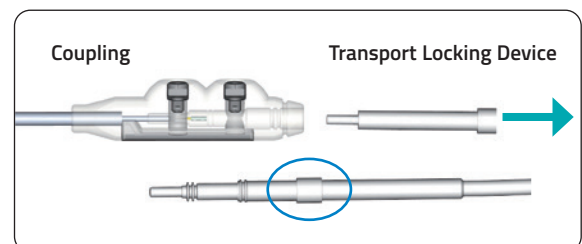

Fig. 33 Transport locking device removal
Remove the transport locking device from the receivers coupling. Place a drop of saline on the plug of the cable and insert into the coupling (**Fig. 33**). Place the stethoscope and transmitter in sterile drapes.
**PRECAUTION:** Make sure the white ring (see blue circle in Figure 33) is in connection with the start of the coupling.